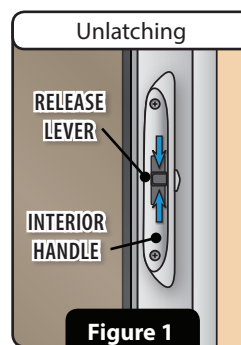

Figure 1
- a3** Insert edge of the **Sill Adapter** into the **Adapter Channel** located on the **Screen Track** (see Figure 1).
- b2 With a **Hacksaw** make a clean square cut through the Screen Track at the **Cut Mark**. With a metal file, file down all sharp edges. Repeat steps for the other Screen Track (side D) (see Figure 1).
Use the **Handle** to extend insect screen to the other side of door frame. It will automatically latch when fully extended. Slide the **Release Lever** up or down to unlatch, the insect screen will automatically retract (see Figure 1).